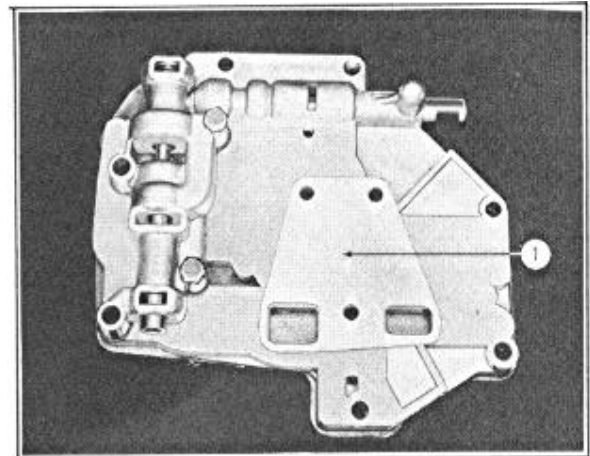

FIGURE 72
2. Remove the three shroud to block cap screws (1) and remove the shroud reinforcing plate (3) and shroud (2) and gasket.
3. Remove the two cap screws (6) and remove the relief valve body (7) and gasket (1), Figure 72.
13. Install the oil screen shroud gasket (1), Figure 72, on the valve block manifold, aligning all holes and openings.